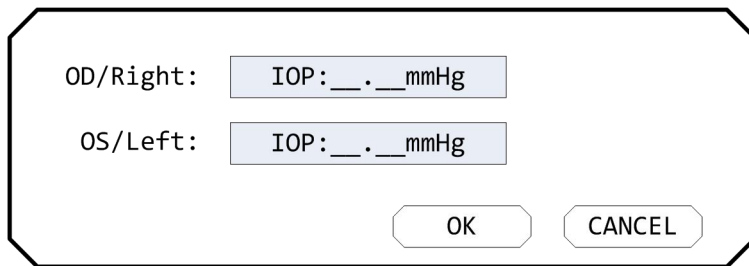

Figure 3-4 Mean IOP Setup Dialog Box
1. Select [Mean IOP...] button; the Mean IOP Setup Dialog Box (Figure 3-4) will be shown accordingly.